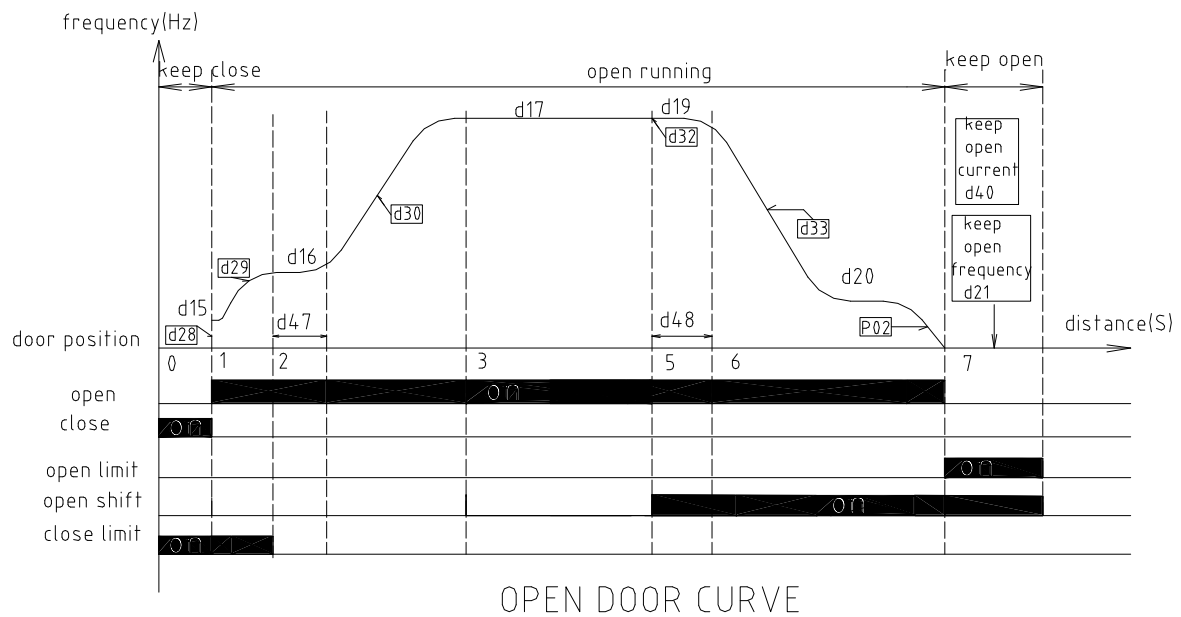
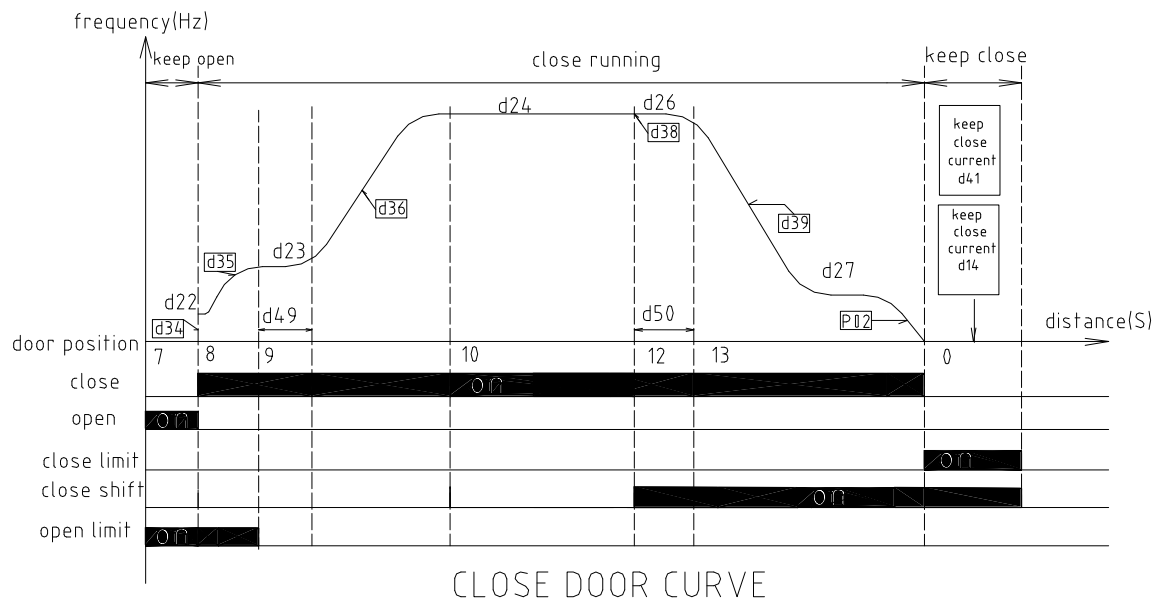

Figure 2
Figure 3
Before the door controller is sent out from factory, the Autotune of door width pulses and function parameters are completed. If user requires getting preferable running curve, he can modify the corresponding parameters refer to fig.2 & fig. 3.
- 6.2 Refer to fig.2 & fig.3 and corresponding parameters (page:4,5), to get better capability through adjusting door running curve.